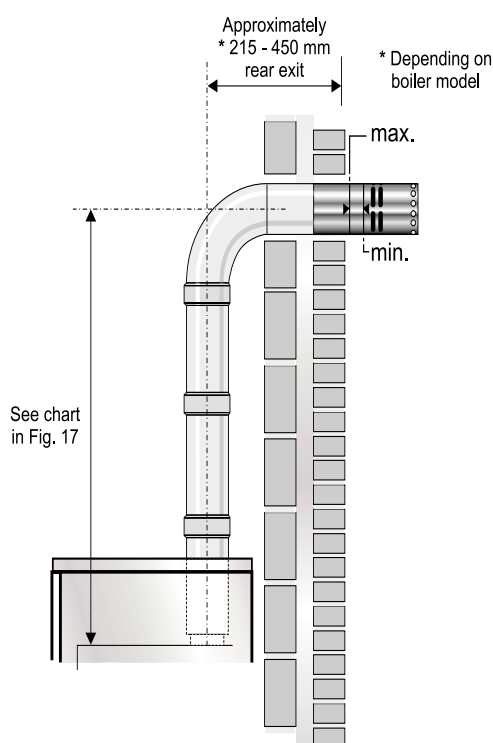

**Fig. 13**
If the boiler is to be used with a balanced flue, make the hole in the wall for the flue as shown in Fig. 13 (low level flue) or Fig. 14 (high level flue).
**Note:** Dimensions A and B given in Figs. 13 and 14 include an extra 10 mm over the size of the terminal to provide clearance for fitting.